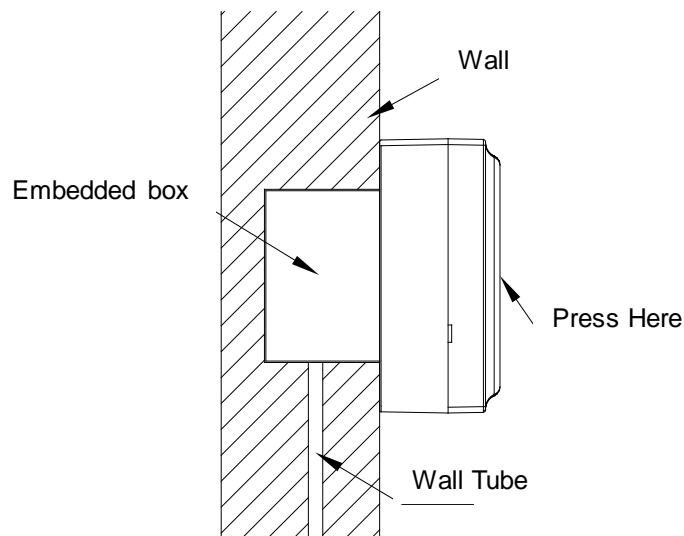

Fig. 2 Installation diagram of manual button
5.1 Installation method: Incoming line conduit of manual button adopts concealed installation (as shown in Fig. 2).